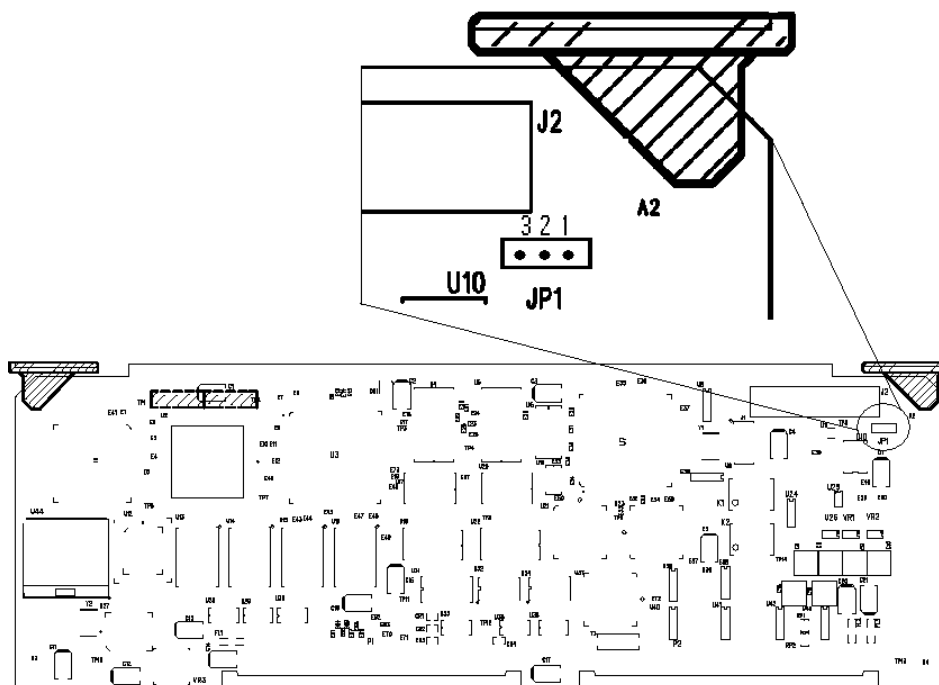

Figure 1-2. Startup Configuration of A2 Connector JP1
The MG369xB comes from the factory with a jumper across pins 2 and 3 of the A2 microprocessor PCB connector JP1 (Figure 1-2). In this configuration, connecting the instrument to line power automatically places it in operate mode (front panel OPERATE LED on).
3. Locate the connector JP1 and remove the jumper from across pins 2 and 3. Refer to Figure 1-2 below.